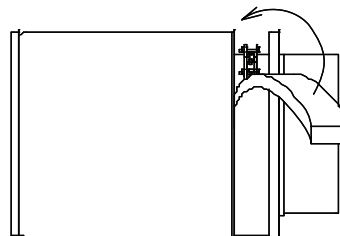

Figure 56 - Adjustable length, INSTALLATION STEP E
4. For proper installation, the adjustable length must have adequate overlap and sufficient allowance for thermal expansion. (see **Figure 56** - Adjustable length (LA), and **table 15**).
- e. Fill the gap between the inner flue and outer casing with the supplied insulation band. See **Figure 56** (CIX only).